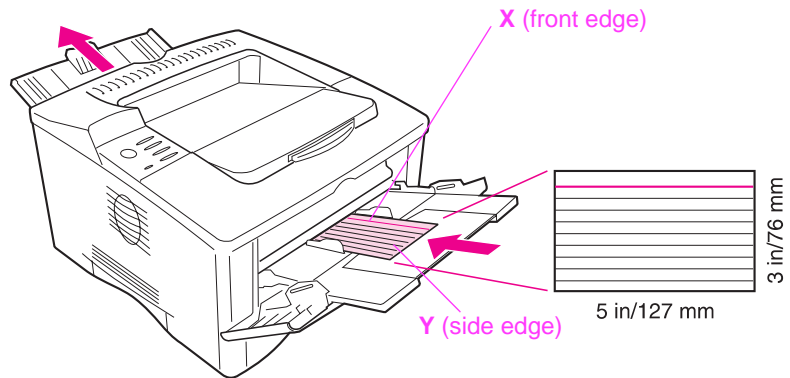

Figure 18 **Printing Custom-Size Paper**
- 3 From the Printing Menu, set the X dimension (the front edge of the paper) as shown in Figure 18. X can be 3 to 12.28 inches (76 to 312 mm) for Tray 1 or 5.8 to 11.7 inches (148 to 297 mm) for the 500-sheet tray (optional). Set the Y dimension (the side edge of the paper) as shown in Figure 18. Y can be 5 to 18.5 inches (127 to 470 mm) for Tray 1 or 8.2 to 17 inches (210 to 432 mm) for the 500-sheet tray (optional).